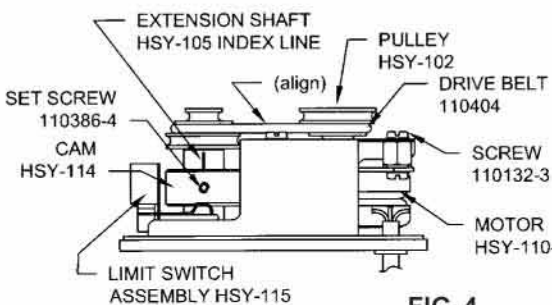

FIG. 4
**8. RHSY Series pumps** are powered by belt-coupled synchronous motors (refer to figs. 4 & 7c). To service this type of pump, **un-plug power cord**, loosen THUMB SCREW 110437 on rear of CASE ASSEMBLY HSY-109 from COVER ASSEMBLY HSY-113. It will then be noted that a machine SCREW 110230-6 and a STAND-OFF 110439 serve to lock the RH pump head assembly and the SY motor assembly to the COVER ASSEMBLY HSY-113. Removal of the machine screw and stand-off permits removal of pump head and/or motor bracket assembly. Loosening the two machine SCREWS 110132-3 holding the MOTOR ASSEMBLY HSY-110- permits adjustment of the drive belt tension (relocates motor position).
Pulley grooves on motor and pump must be in alignment as shown in fig. 4. SET SCREWS 110288-2 in parts HSY-102 and HSY-105 may be loosened as necessary to achieve such alignment. **Tighten screws** after any service adjustment and **replace CASE ASSEMBLY HSY-109** before plugging electric cord into outlet.
rate is controlled by the groove position in which the belt has been placed. Thus in fig. 4, with belt in central position as shown, the pump operates at 300 strokes per minute; with belt on the small-motor-pulley and large-pump-pulley, (fig. 4) it operates at 150 strokes per minute and with the belt on the large-motor-pulley/small-pump-pulley the pump operates at 600 strokes per minute.